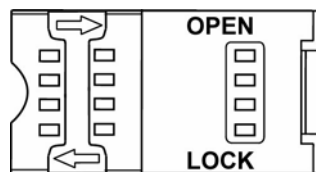

Figure 11 MSAM Cardholder Lock Plate Detail
- a Unlock the cardholder: Slide the lock plate to the unlocked position, in the OPEN direction (Figure 11).
- 7 Lock each MSAM cardholder by sliding its locking plate towards the LOCK arrow until the plate stops (Figure 11).